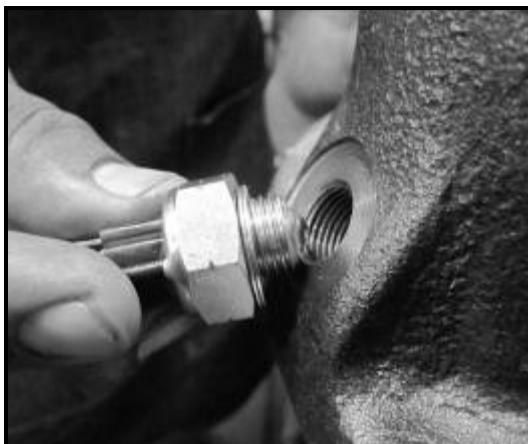

Figure 67
18. Install the switch using a new copper washer. Torque to specification. See **Figure 67**.